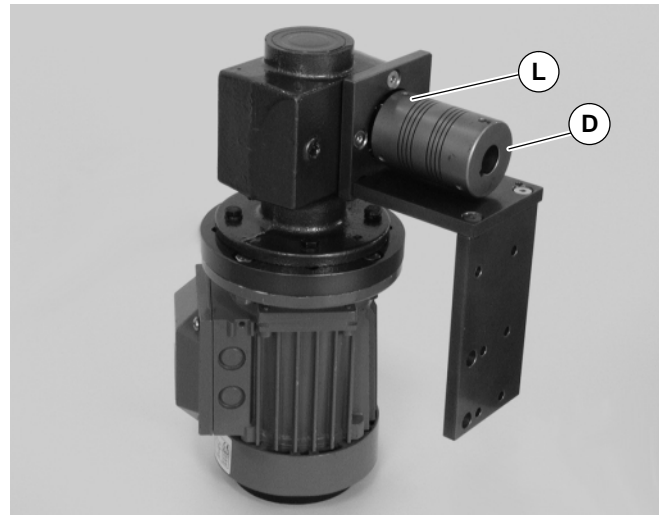

Figure 10
4. Remove two (2) set screws (L of Figure 10) and remove coupling (D).
13. Attach coupling (D of Figure 10) to gear reducer shaft. Tighten two (2) set screws (L) to 3.7 Nm.